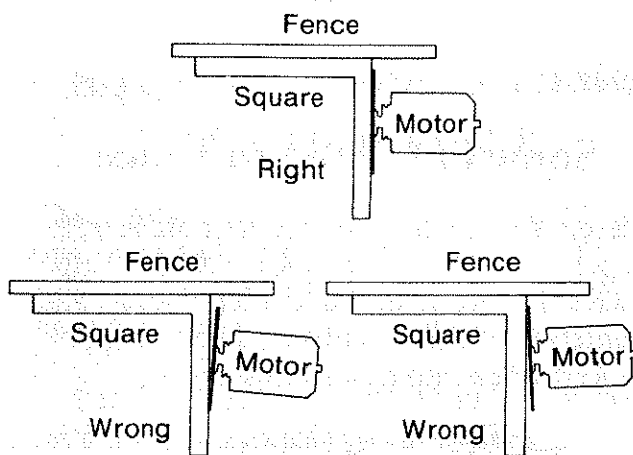

Fig. 61
5. If the square is flush with the *blade* after each rotation, no change is needed. (Figure 61) Go to the next section, or
If there is a gap between the square and the *blade* after any rotation, go to step 6. (Figure 61)